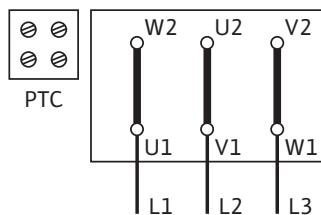

Fig. 35: Y-Δ-start (standard)
- The connection diagram for the electrical connection is in the terminal box (also see Fig. 35/36).
Y-Δ start (default)	Remove connecting bridges (Fig. 35)